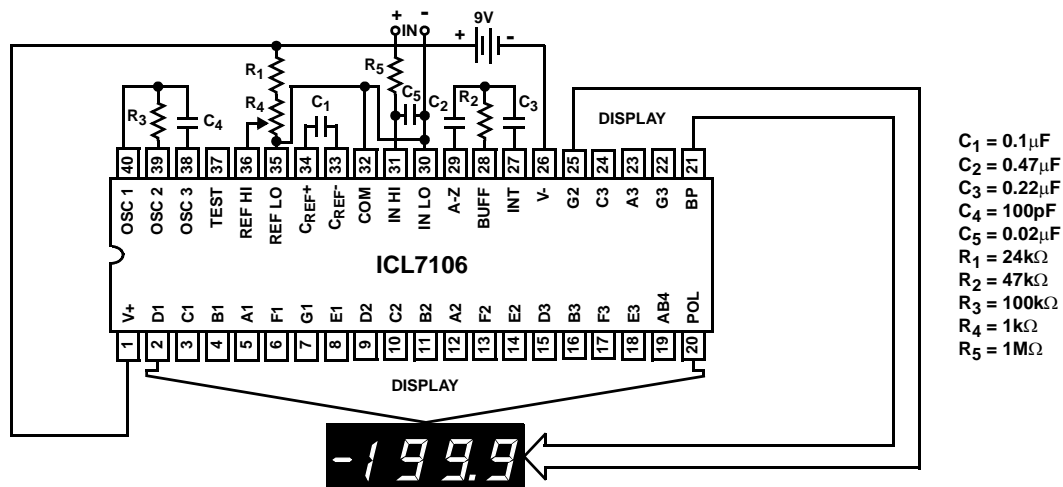
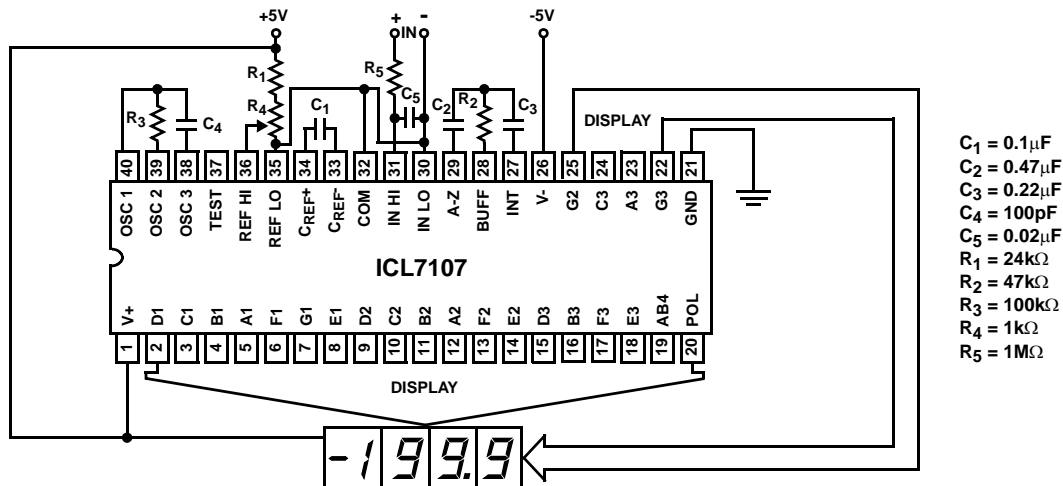

FIGURE 1. ICL7106 TEST CIRCUIT AND TYPICAL APPLICATION WITH LCD DISPLAY COMPONENTS SELECTED FOR 200mV FULL SCALE
FIGURE 2. ICL7107 TEST CIRCUIT AND TYPICAL APPLICATION WITH LED DISPLAY COMPONENTS SELECTED FOR 200mV FULL SCALE
- Unless otherwise noted, specifications apply to both the ICL7106 and ICL7107 at $T_A = 25^\circ\text{C}$, $f_{\text{CLOCK}} = 48\text{kHz}$. ICL7106 is tested in the circuit of Figure 1. ICL7107 is tested in the circuit of Figure 2.
Figure 1 is a block diagram of the LCD driver circuit. The diagram shows a multi-digit LCD display at the top with segments labeled a through g. Below the display is a BACKPLANE. The main circuit block contains an LCD PHASE DRIVER, three 7 SEGMENT DECODE blocks, a LATCH, and four counters (1000's, 100's, 10's, and 1's). A $\div 200$ divider is connected to the BACKPLANE. The 1's counter output is connected to a LOGIC CONTROL block. The LOGIC CONTROL block also receives inputs from the BACKPLANE and a 6.2V diode. The LOGIC CONTROL block outputs to the SWITCH DRIVERS FROM COMPARATOR OUTPUT. The circuit is powered by V_+ and V_- (INTERNAL DIGITAL GROUND). A 500Ω resistor is connected between V_+ and V_- at pin 37. A 1V threshold (V_{TH}) is indicated. The circuit is connected to OSC 1, OSC 2, and OSC 3 at pins 40, 39, and 38 respectively. A callout shows a TYPICAL SEGMENT OUTPUT circuit with a 0.5mA current source and a 2mA current source connected to a SEGMENT OUTPUT block.